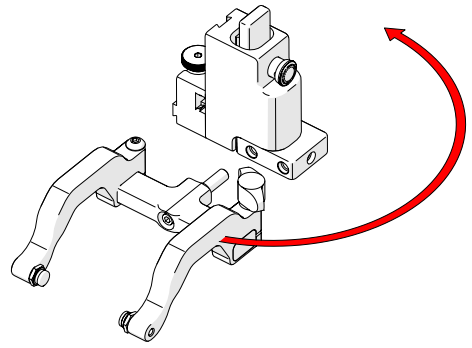

Fig. 135 - Orient to opposite side
2. Position the yoke and arms to the opposite side of the probe holder (Fig. 135).